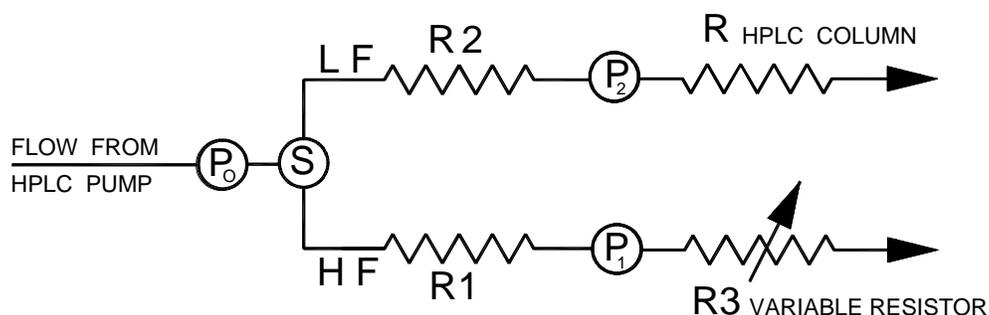

Figure 1 Schematic diagram of the Model AS650
Incoming flow from the HPLC system is split by a static splitter S into low flow (LF) and high flow (HF) channels (Figure 1). Pressure drop across both channels is measured by low volume transducers P0, P1, and P2. The ratio of the differential pressures P0-P1 and P0-P2 are measured and maintained by automatic feedback control of variable resistor R3. The low volume of the splitter and resistors allows an accurate means to calculate and deliver a split flow rate which is independent of solvent viscosity.